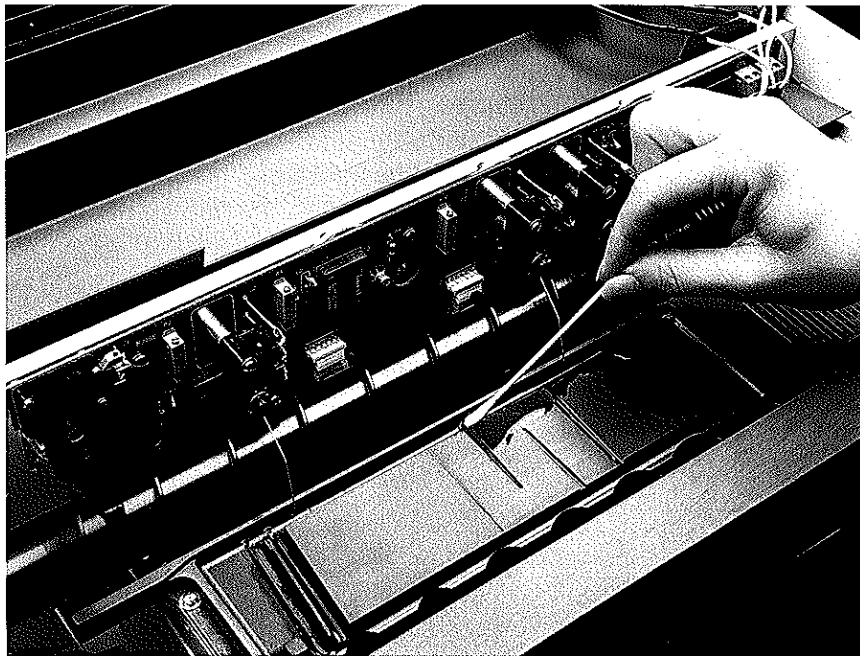

Figure 6-6
5. Using an applicator stick with a cotton swab attached, wipe from *right to left* along the length of the back trough to remove all the excess residue (Figure 6-6). Do the same in the front trough. Other exposed areas that might be accidentally stained, including the rear guide rail, should be cleaned in the same careful manner. **NOTE:** Care should be taken not to scratch the platen surface.